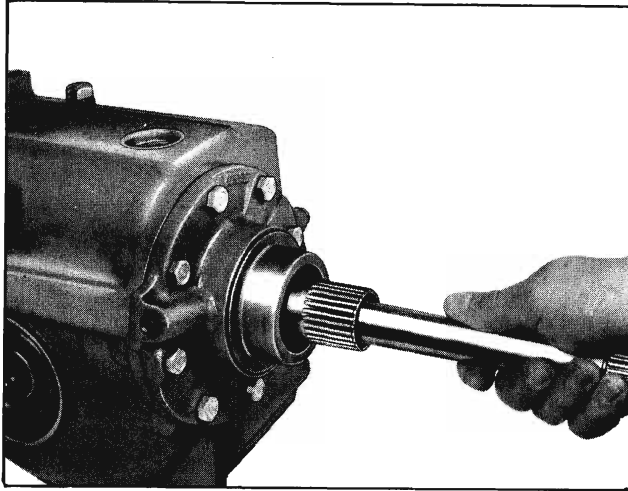

Fig. 7A-31 Removing Turbine Shaft
4. Remove turbine drive shaft (Fig. 7A-31).